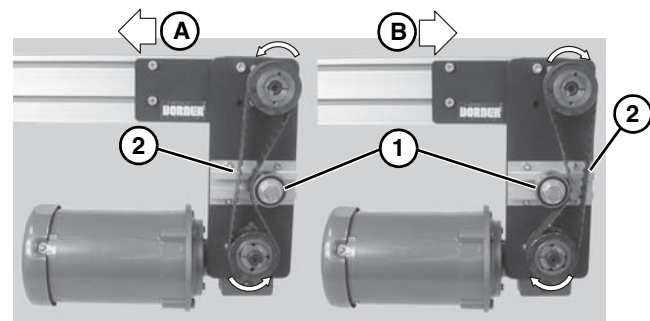

Figure 17
3. Depending on conveyor belt travel (direction A or B), locate timing belt tensioner (**Figure 17, item 1**) as shown. Tension timing belt to obtain 1/8" (3 mm) deflection for 6 lb (3 Kg) of force at timing belt midpoint (**Figure 17, item 2**). Tighten tensioner screw to 110 in-lb (12 Nm).